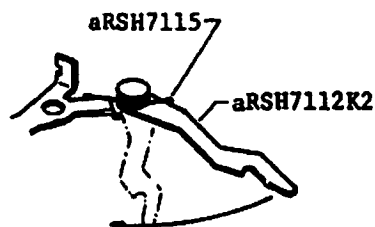

Fig. 125
- (1) Charging lever (aRSH7112K2) shall move slightly by the force of Spring (aRSH7115) as shown in Fig. 125.